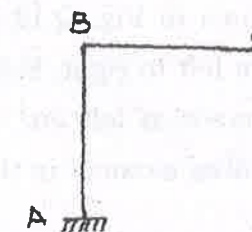

Fig.Q.1
1. Determine the degree of kinematic indeterminacy of the frame shown in Fig. Q.1 and show the same in the frame.